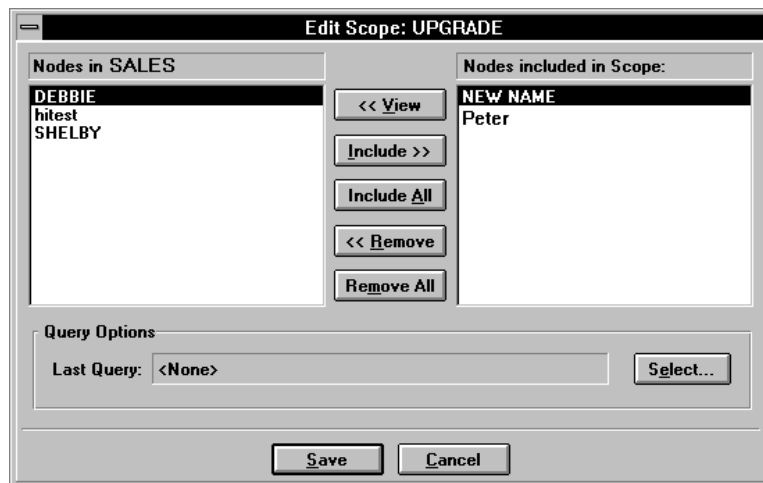

Figure 8-2: Editing Scope Members
- The Nodes in SITE list on the left side of the dialog box consists of all node names that apply to the local site. The site name is indicated by the SITE text in the list title. (In Figure 8-2 above, SALES is the site name.) The nodes in this list are not included in the selected scope (i.e., the list to the right).